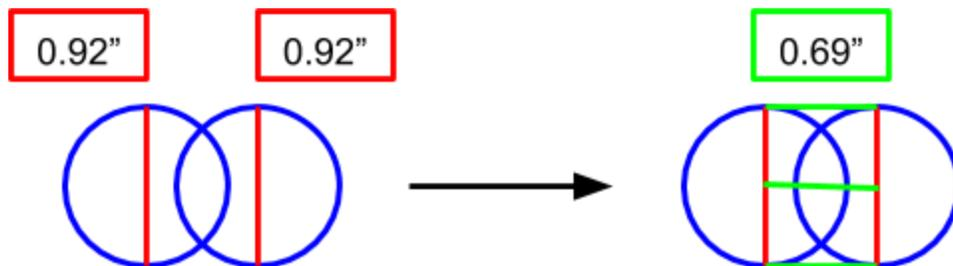

Figure 18. A visual representation of the easiest way to reconstruct the adjustment bar's cross-section
- iv. This can be seen in Figure 18.